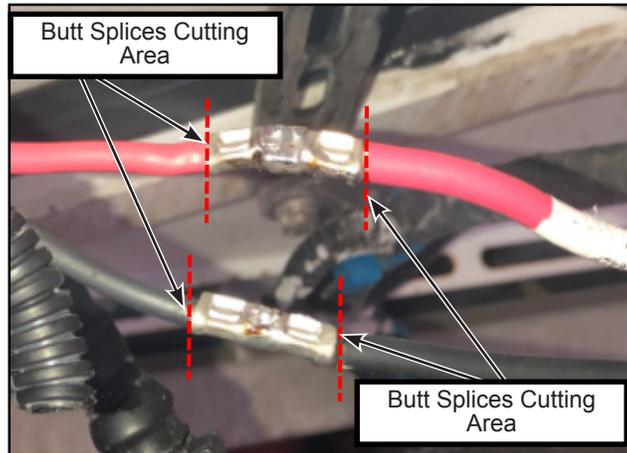

Figure 4 - Butt Splices Removal
- 1.10. On both sides (engine fan and harness) cut the butt splices on both power wires (RED and BLACK) keeping the maximum wire length (see figure 4). Cut and remove the excess of convoluted tubing required to expose the wires for HDSCS terminals and connector housings installation. Clean the exposed wires with contact cleaner, if glue or dirt is present.